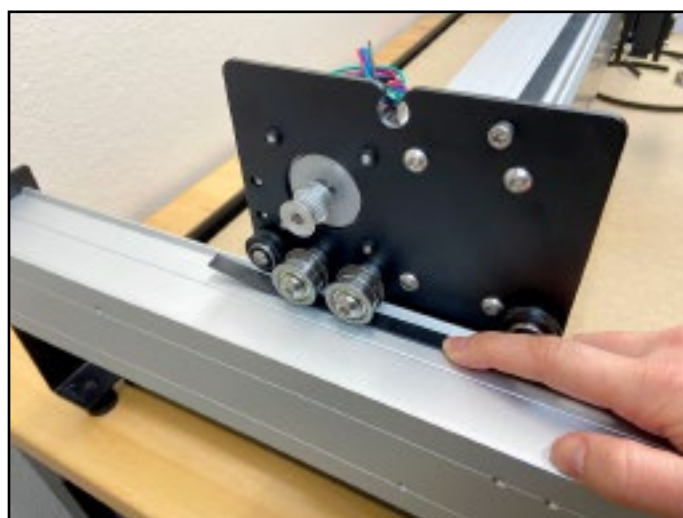

Figure 5-13
- Feed the belt under the two idlers on the outside of the Y1-carriage. Make sure the belt does not twist and the teeth remain facing down all the way to the rear endplate. See **Figure 5-13**.